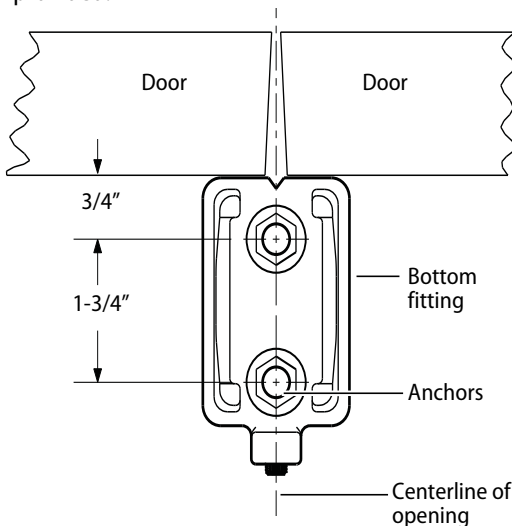

Figure 4 Installing the bottom fitting (overhead view)
- 1 Center the bottom fitting on the floor between and flush with the closed doors. See Figure 4.